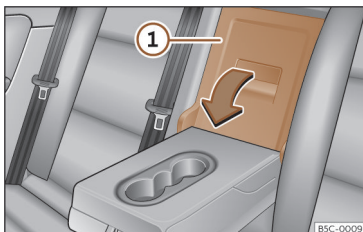

Fig. 172 On the rear seat backrest: opening the trapdoor.
- Pull the release lever in the direction of the arrow and push the trapdoor cover >>> **Fig. 172** ① down and forwards.